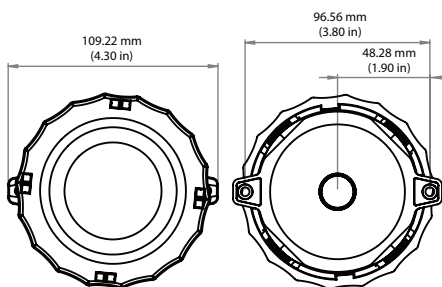

Figure 2: Dimensions for EURO (-EH) Enclosure
- Mount at least 0.3 m to 0.6 m (1 ft to 2 ft) below eave to prevent thermal radiation from affecting performance – see Figure 2.
Attach the base directly to the wall. Mounting holes are located at the bottom of the housing – see **Figure 2**. Drill pilot holes for the mounting screws. Use the enclosure mounting holes as a guide, or use the dimensions listed above to measure out.